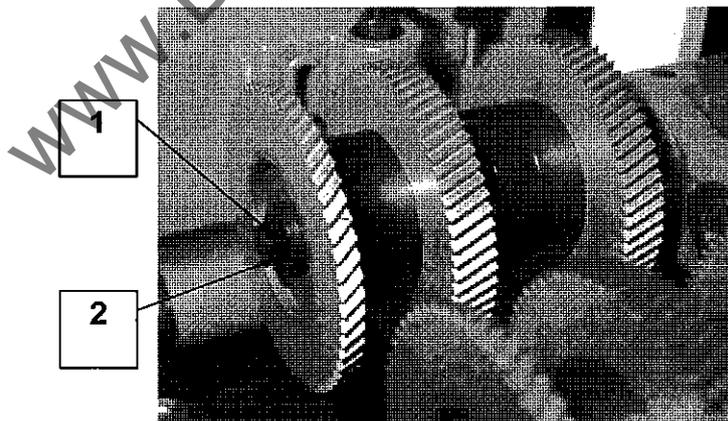

Figure 7.3.7
7.3.7 Replace Flange-Mounted Top Feed Rolls/Spacers (Figure 7.3.7)
- 1 Slacken the draw bolt (1), remove the 'C' washer (2) and withdraw the bolt.